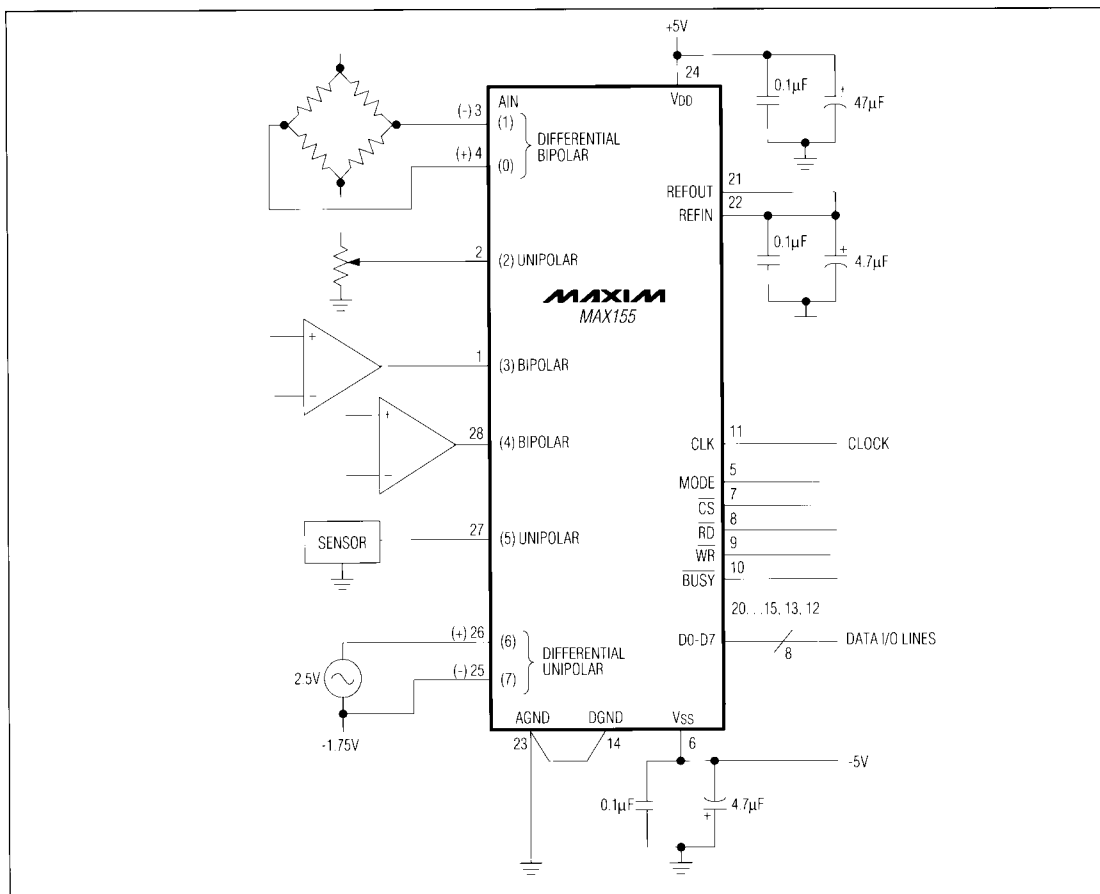

Figure 10. MAX155/MAX156 Typical Operating Circuit
where N is the number of channels converted. This includes one clock cycle of uncertainty. For a single channel and 5MHz clock, the conversion time is $(9 \times 1 \times 2)/5MHz = 3.6\mu s$. For the MAX155, the maximum conversion time for 8 channels is $(9 \times 8 \times 2)/5MHz = 28.8\mu s$. In the application example (Figure 10), six conversions are configured, and the conversion time is $(9 \times 6 \times 2)/5MHz = 21.6\mu s$.
MAX155/MAX156 address and configuration inputs for this example were determined by selecting the desired channel configurations in Tables 2 and 3. Figure 10 illustrates the configuration outlined in Table 5.
3. Data is read from RAM with $\text{INH} = 1$ and consecutive RD strobes. Note that in the 6 channel configurations described in this example (Figure 10), 6 RD pulses access all available data, starting with the differential channel (1,0). Additional RD pulses loop around, accessing the lowest channel data again.